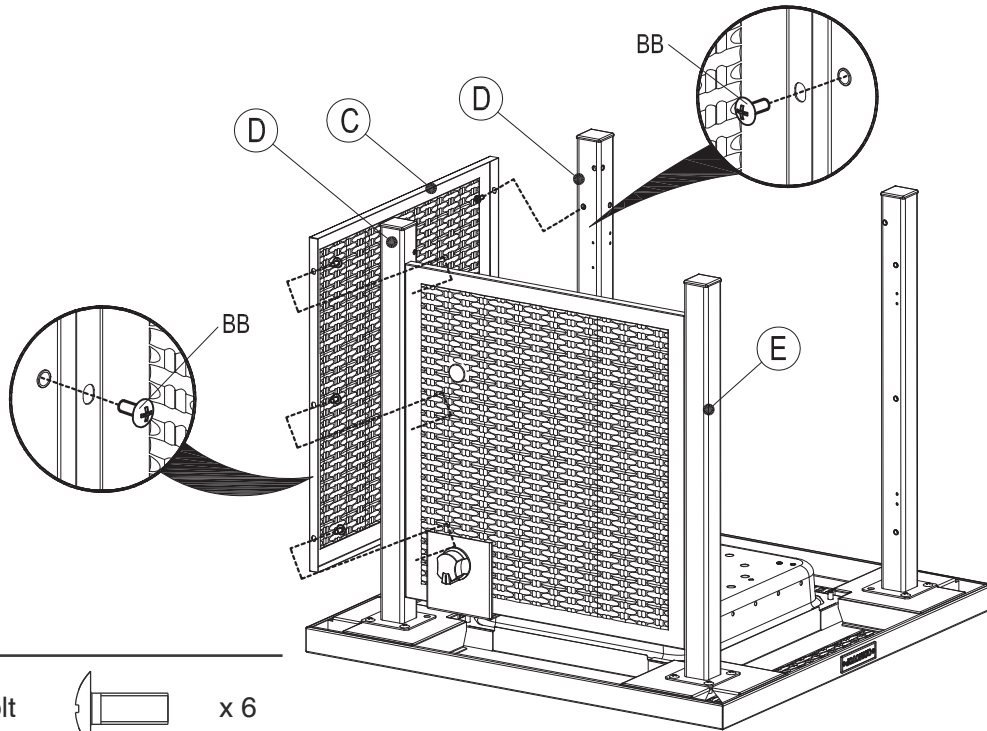

Fig. 5
Attach side panel B1 (C) to legs (D) with (6) M5x12 bolts (BB) as Fig. 5.